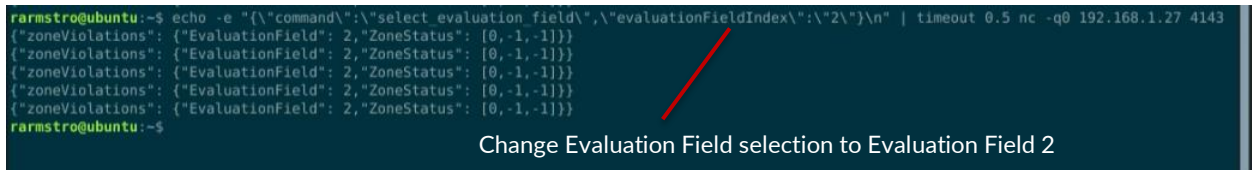

Figure 95. QORTEX Aware: JSON Command Setting Zone 2
- Change to Evaluation Zone 2 using Qortex Aware JSON command. See Figure 95. QORTEX Aware: JSON Command Setting Zone 2.